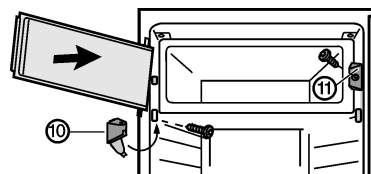

Fig. 7 *
- Fit the closing element Fig. 7 (11)*
- Fit the turn hinge Fig. 7 (10) and fold the cover.*